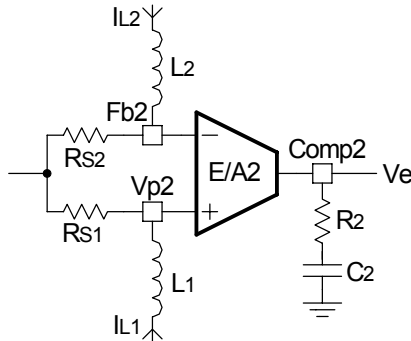

Fig. 22: The Compensation network for current loop
As shown the  $G(s)$  is a function of inductor current. The transfer function for compensation network is given by equation (23), when using a series RC circuit as shown in figure22.